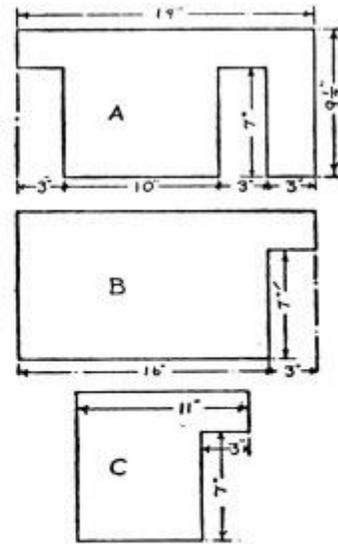

FIG. 68. FIRST FLOOR PARTITIONS
**Make the Partitions A, B, and C**, the shape and size shown in Fig. 68, and nail them to the places marked out for them on the floor.